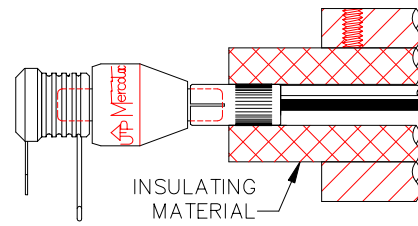

Fig 5 Thermal Insulation
7. The brushless slip ring contains plastic materials that are sensitive to heat. Over-heating will cause reduced life or slip ring failure. Provide thermal insulation where necessary to prevent the slip ring temperature from exceeding 140°F (60°C). <Fig 5>